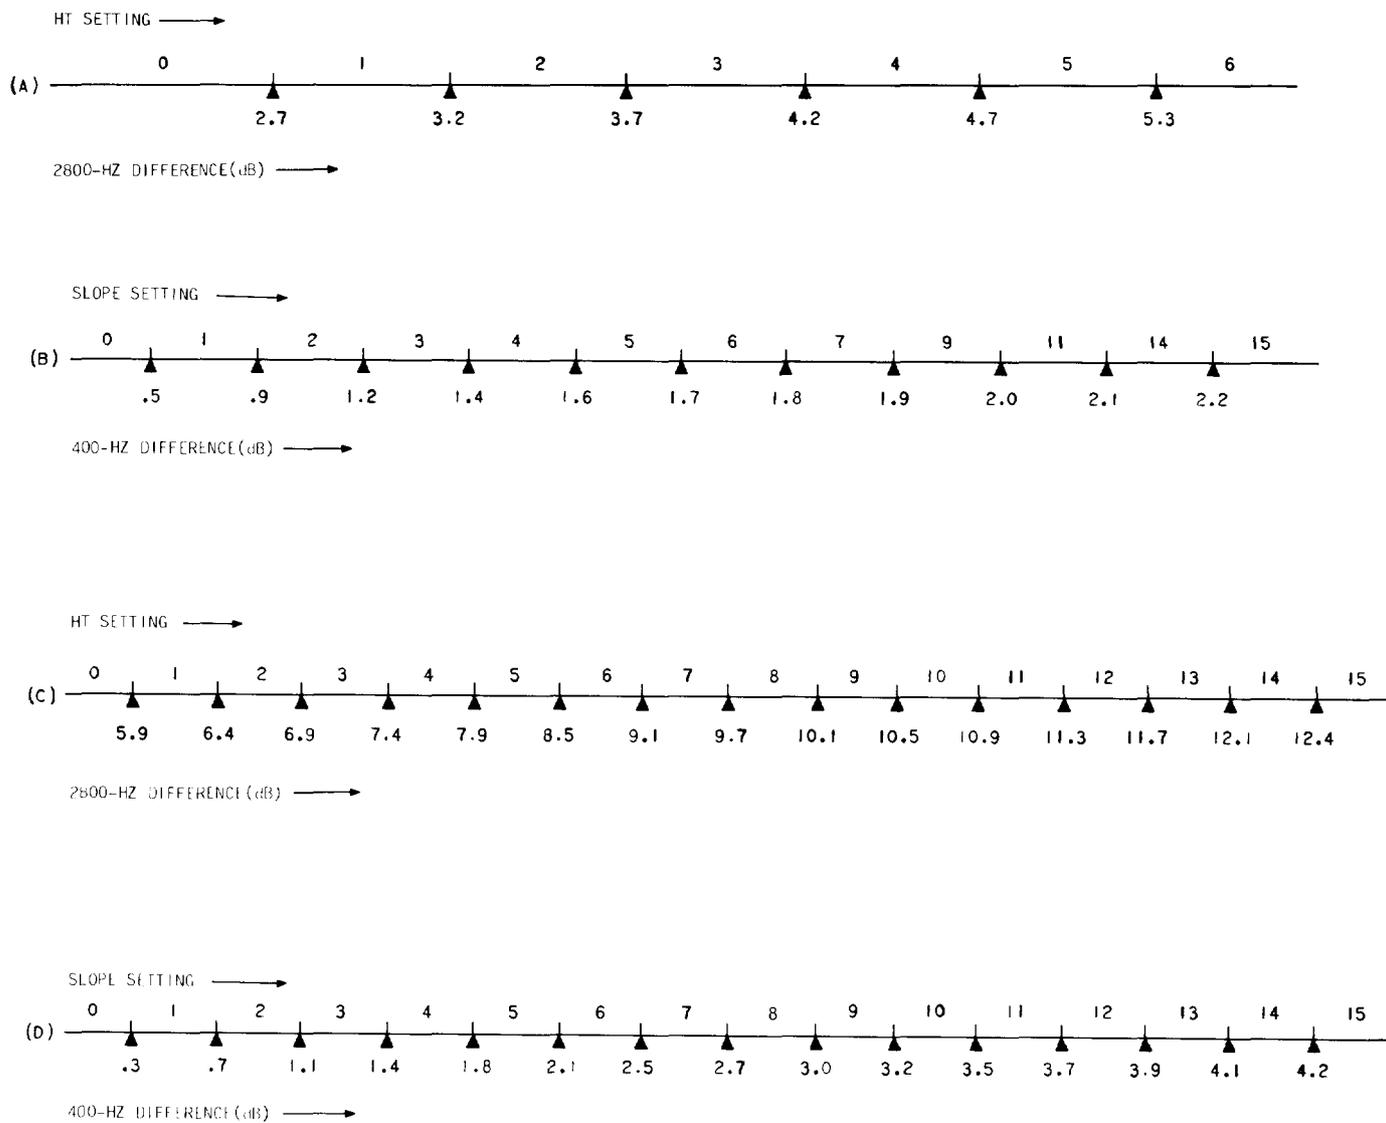

Fig. 21—Loss Range Charts for Obtaining 309B Equalizer Settings
From Fig. 21(A) HT = 1 when 2800-Hz difference = 3.1 dB. From Table F the 400-Hz adjustment corresponding to HT = 1 is 0.1.
From Fig. 21(B) SLOPE = 4 when 400-Hz difference = 1.4 dB.
4	From Fig. 21(C) HT = 6, and from Table F the 400-Hz adjustment is 0.6.
2	2800-Hz loss__ 1000-Hz Loss__ DIFFERENCE__If greater than 5.5, enter this difference in Step 4 and proceed to Step 4. From Fig. 21(A), select HT setting and enter in Step 6. From Table F, find the 400-Hz adjustment corresponding to this HT setting and enter at * in Step 3.
From Fig. 21(B), select SLOPE setting and enter in Step 6. Enter NL/L = L in Step 6. Proceed to Step 6.
4	DIFFERENCE From Step 2 _____ From Fig. 21(C), select HT setting and enter in Step 6. From Table F, find the 400-Hz adjustment corresponding to this HT setting and enter at † in Step 5.
5	100-Hz Loss _____ 400-Hz Loss _____ DIFFERENCE _____ ADD _____ 1.5 _____ TOTAL _____ 400-Hz Adj. _____ † _____ DIFFERENCE _____ From Fig. 21(D), select SLOPE setting and enter in Step 6. Enter NL/L = NL in Step 6.